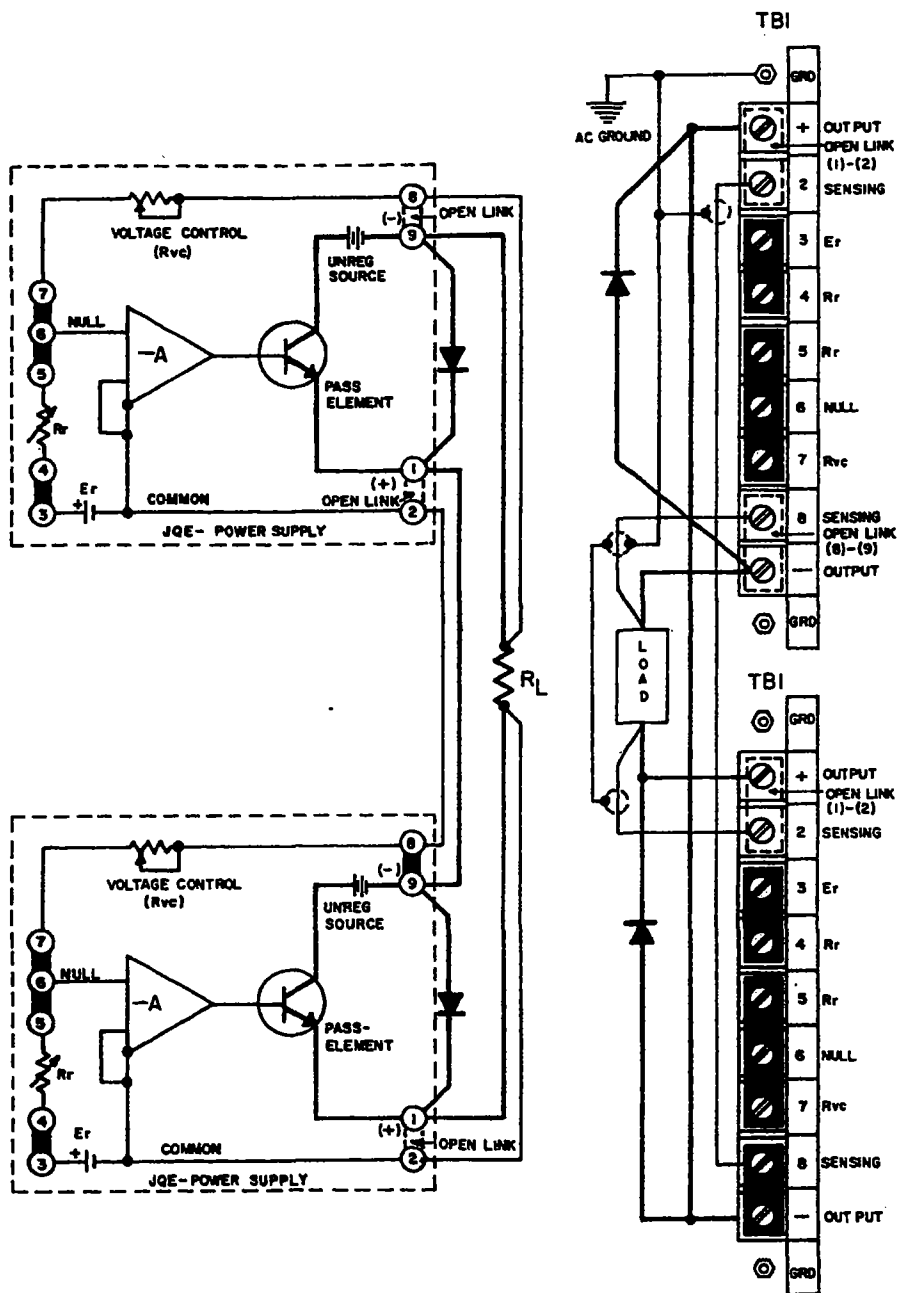
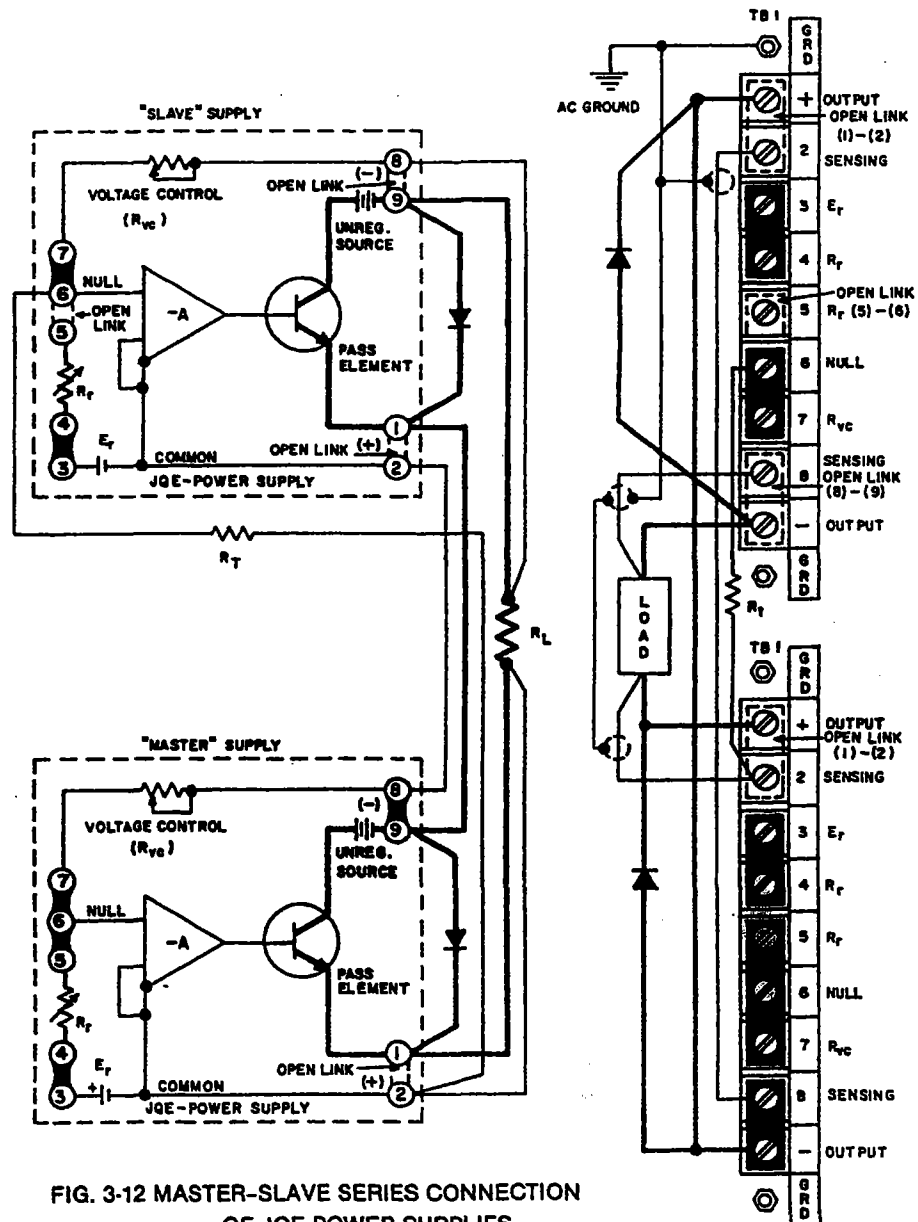

FIG. 3-11 AUTOMATIC SERIES CONNECTION OF JQE POWER SUPPLIES
FIG. 3-12 MASTER-SLAVE SERIES CONNECTION OF JQE POWER SUPPLIES
**3-35 GENERAL.** Kepco JQE Power Supplies can be series-connected for increased voltage output, provided the specified limits on voltage to chassis are not exceeded. When series-connected, the supplies should be protected by means of a semi-conductor diode across the output terminals of each power supply, as shown in FIG. 3-11. The peak inverse rating of these diodes must be at least as large as the output voltage of the supply to which they are connected. The continuous current rating of the diodes should be at least as great as the maximum output current of the interconnected supplies.
- a) Connect load as shown in FIG. 3-11. Keep voltage drop in load wires as low as practical by using heavy gauge wire.
**3-37** An alternate method of series-connecting two or more power supplies is shown in FIG. 3-12. The basic difference between the "Automatic" series connection, shown in FIG. 3-11, and the "Master-Slave" connection (FIG. 3-12) is that with the former connection the outputs of both supplies may be controlled or programmed individually, while with the latter method only the "Master" supply is controlled, while the "Slave" supply follows the command of the "Master" in a ratio which may be pre-determined by the user. The "Master-Slave" series connection is therefore often termed an "Automatic Tracking" configuration.
As seen from FIG. 3-12, the reference voltage of the "Slave" supply is disconnected and its input (null junction) is connected (via  $R_t$ ) to the output of the "Master" supply. Since the control current for the "Slave" supply is thereby derived from the "Master", the "Slave" output is thus completely dependent on the "Master" supply output:
As seen from the equation, if the tracking resistor ( $R_t$ ) is made equal in value to the voltage control resistor of the "Slave" ( $R_{vcs}$ ), a tracking ratio 1:1 is achieved, and the output of the "Slave" will equal that of the "Master". If a single load is connected to the series combination (FIG. 3-12), twice the "Master" output is applied to it. If separate loads are connected, identical voltages are applied to the individual loads. The ratio  $E_{os}/E_{om}$  can be readily changed if the application so requires by simply changing either  $R_{vcs}$  or  $R_t$ .
- Connect load(s) as shown in FIG. 3-12.